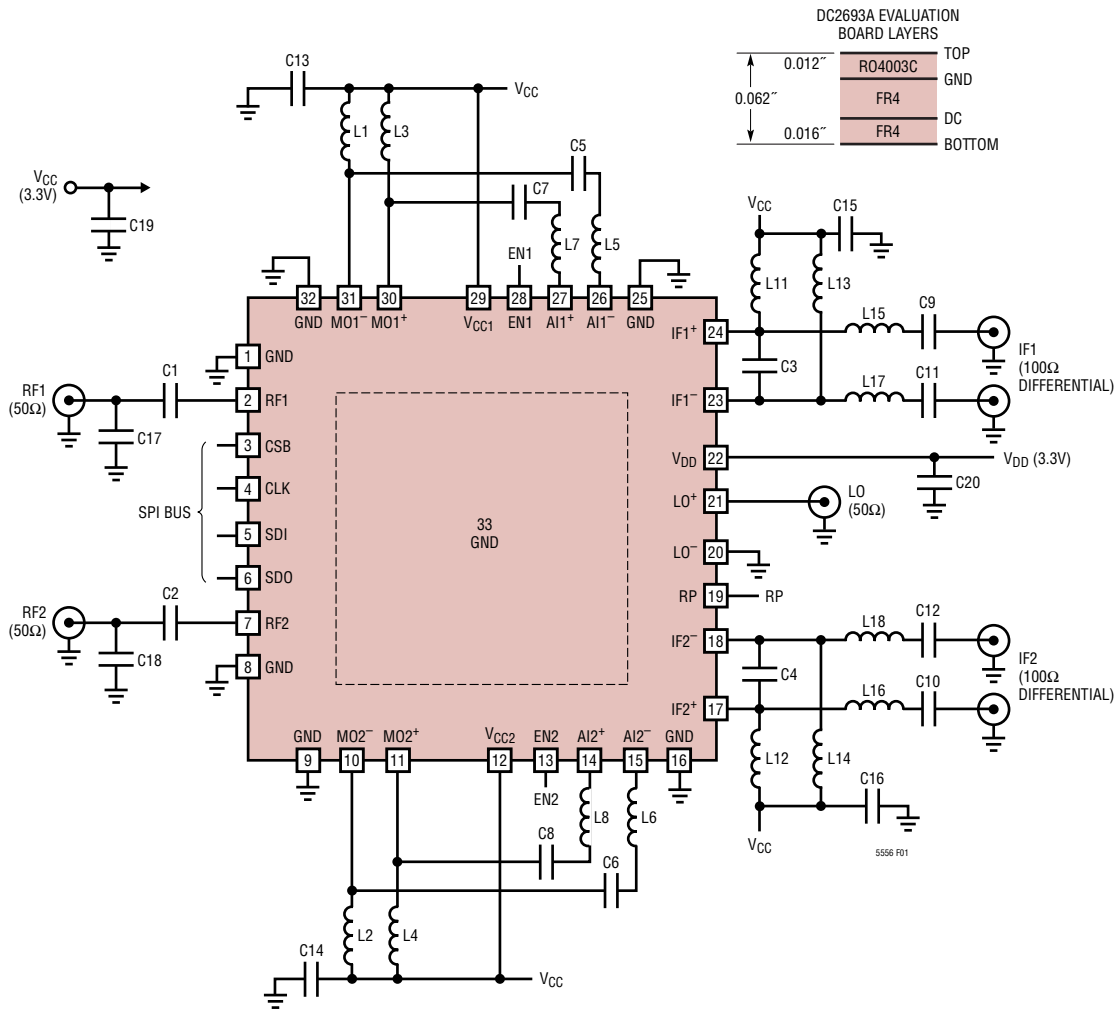
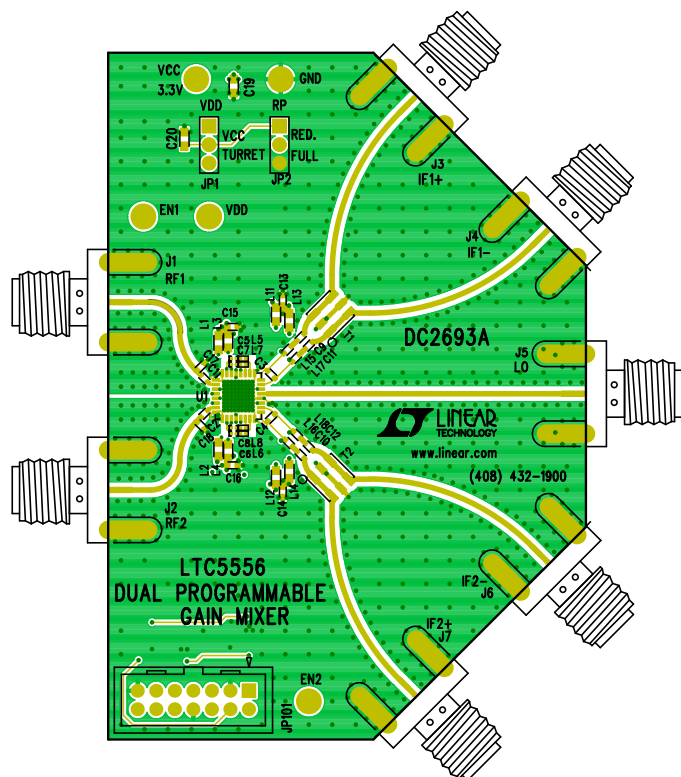
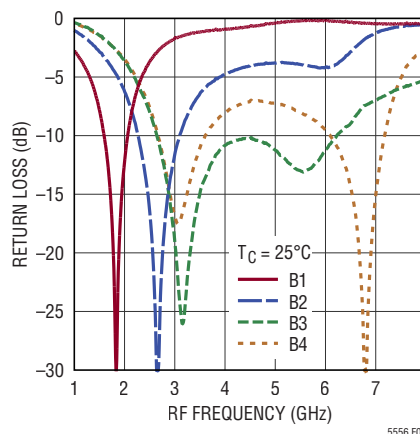

Figure 1. Test Circuit Schematic with 100Ω Matched Differential IF Outputs
Figure 2. Evaluation Board
Figure 4. RF Input Return Loss for Each Band
**TYPICAL PERFORMANCE CHARACTERISTICS** Test circuit shown in Figure 1.
# TYPICAL PERFORMANCE CHARACTERISTICS Test circuit shown in Figure 1.
Each channel can be programmed to a reduced power mode via the SPI or the RP pin, resulting in a 24% power savings, with reduced linearity performance. The test circuit schematic in Figure 1 shows the external components used to characterize the IC. The evaluation board is shown in Figure 2.
The RF inputs are 50Ω matched from 2.6GHz to 6.4GHz, requiring only a 1pF series capacitor (C1) for DC-blocking. Shunt reactance C17 is used to tune the inputs down to 1.5GHz, or up to 7GHz. Figure 1 summarizes the external matching component values for all bands. Measured RF input return loss for each band is shown in Figure 4.